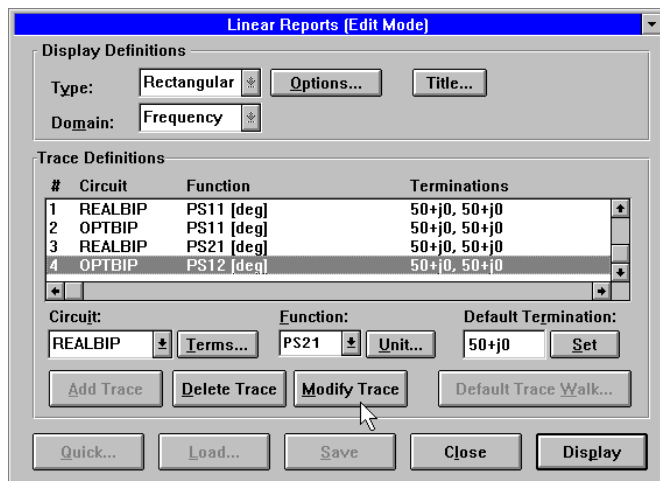

Figure 3—In addition to fixing the active-TWO noise modeling bug, ARD 1.5 also introduces three-dimensional controls and dialog boxes.
We’re calling *ARD 1.5* a *maintenance release* because it’s mainly intended to fix this darned “two-port data with noise parameters” bug.² It does include a few enhancements, though, such as 3-D dialogs and controls (Figure 3).
Viewing the phenomenon of resonance with unjailed eyes can lead to some pretty interesting circuit tricks. For instance, the fact that a paralleled coil and capacitor can act as a coil (below resonance) and a capacitor (above resonance) with reactance-versus-frequency characteristics that significantly differ from an actual coil or capacitor acting all by its lonesome—compare the slopes of the three traces in Figure 1!—can be quite handy if carefully applied. Charles J. Michaels, W7XC, used this characteristic in his April 1992 Hints and Kinks piece, “A Load-Tracking L Network” (Figure 3).
Figure 3—In a region far below resonance, where it's still inductive, the impedance-versus-frequency curve (A) for a parallel LC circuit approximates just the characteristic W7XC needed to track his antenna's impedance-at-resonance curve. Charlie Michaels configured the resulting network (B) by adjusting L and C for a match that provides an SWR of 1.4 or less from 1.8 to 2 MHz with L_{SERIES} adjusted for minimum SWR (1:1 at 1.94 MHz). In his case, L and C resonate near 3.4 MHz. (from Charlie's "A Load-Tracking L Network," April 1992 Hints and Kinks)